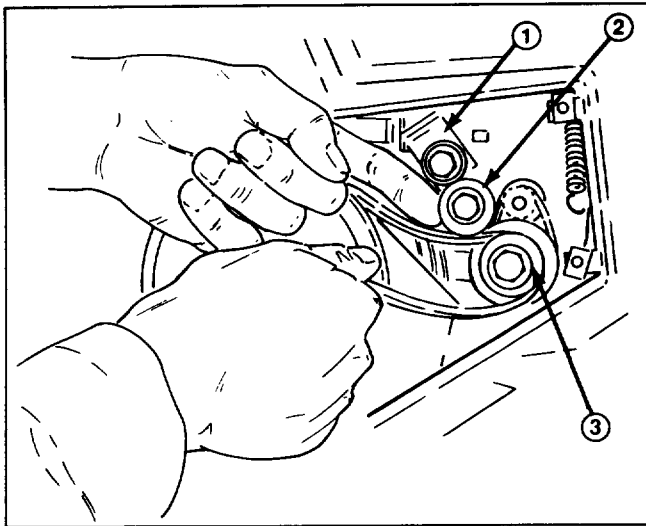
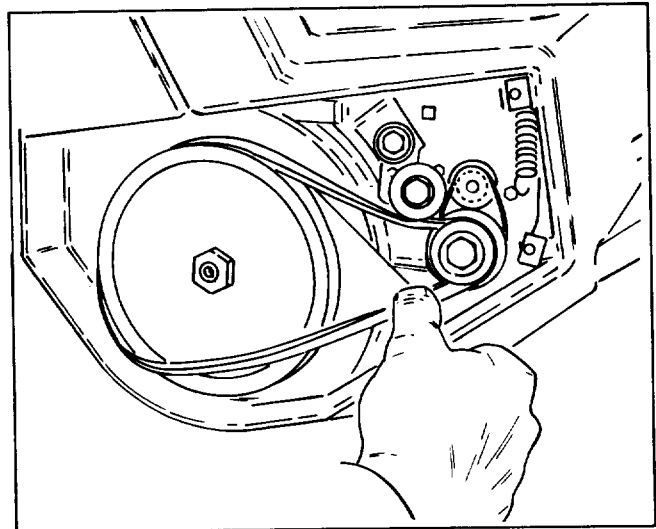

Figure 17
Figure 18
4. Slip new belt over small pulley. Lift up idler arm and slip belt under idler pulley (Fig. 17). Rotate rotor with left hand while walking (sliding) belt onto large pulley with right hand (Fig. 18).
8. Slip large belt over small pulley (Fig. 18). Refer to Large Belt Replacement, steps 4–6.